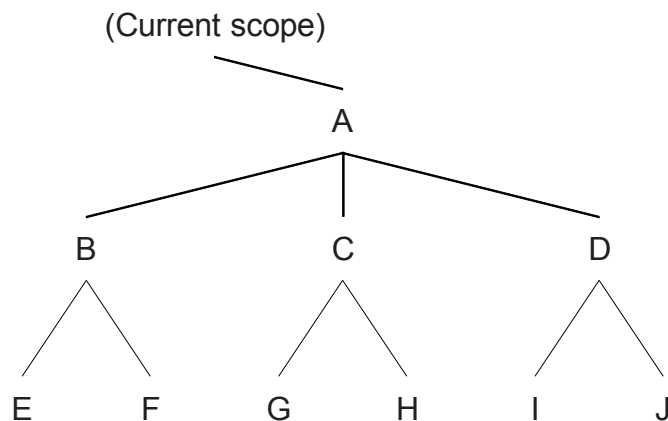
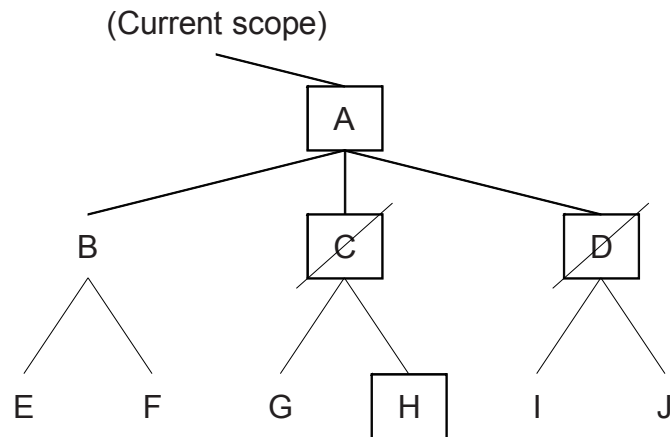
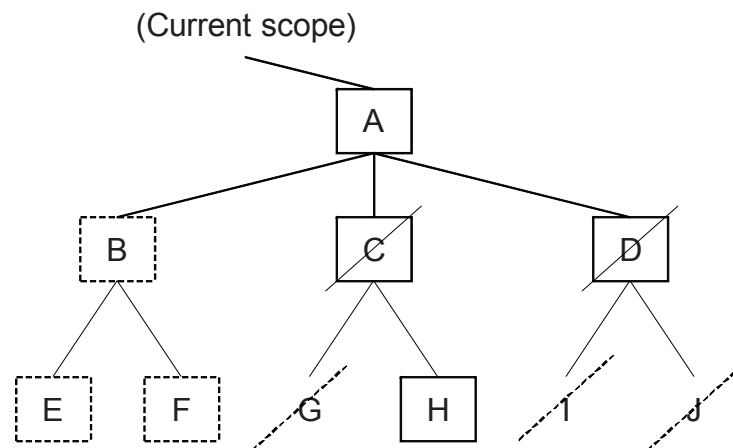

Figure 3—Element processing example design fragment
Figure 4—Element processing specification
Figure 5—Element processing result
The detailed semantics of **-transitive TRUE** are described using Figure 3, Figure 4, and Figure 5. The figures are exemplary; the text provides a semantic for the validation of the result.
- a) Given a design as shown in Figure 3 with a instance A in the current scope, where A has child elements B, C, and D; B has child elements E and F, C has child elements G and H, and D has child elements I and J.
is applied to the design fragment shown in Figure 3, then Figure 4 shows the four specified elements by indicating them as boxed; those specified with exclude are shown with strike-through text.
- c) Figure 5 shows the results of the *effective_element_list*. The list includes